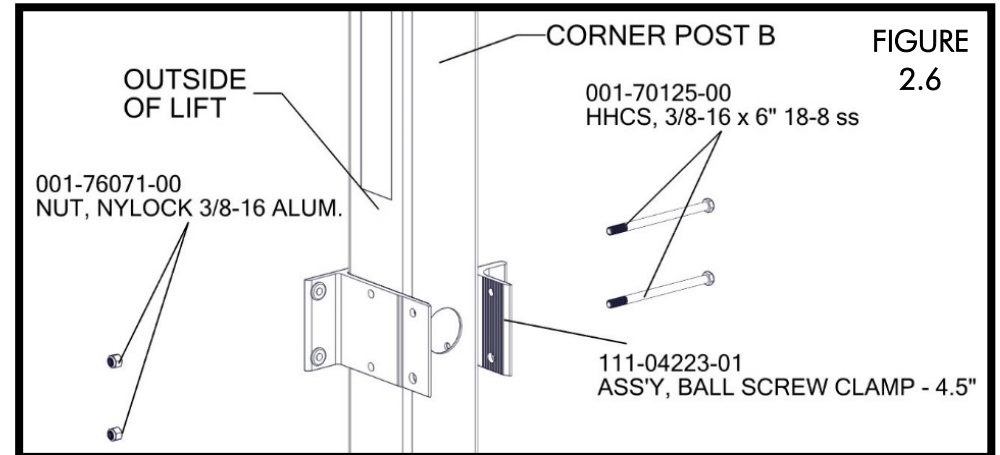

FIGURE 2.6
- ATTACH BALL SCREW CLAMP TO CORNER POST USING (2) 3/8 x 6" BOLTS, AND (2) NYLOCK NUTS (FIGURE 2.5). TORQUE TO 35 FT-LBS (FIGURE 2.6).